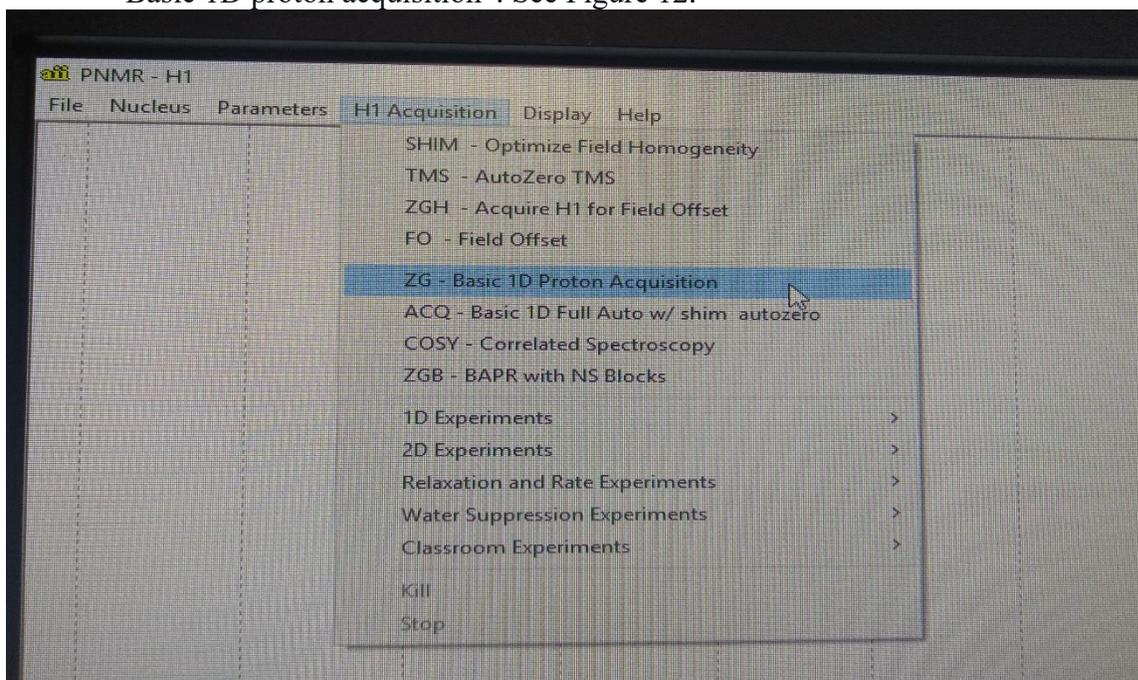

Figure 12. aii screen showing the selection of ZG-Basic 1D proton acquisition.
14) After the left corner change from Green to Grey from the aii screen menu, click “ZG-Basic 1D proton acquisition”. See Figure 12.